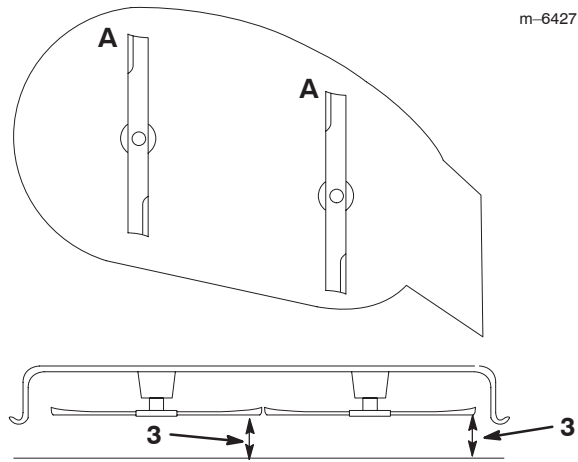

Figure 26
1. Rotate the blades until the ends face forward and backward (Fig. 26). Measure from a level surface to the cutting edge, position 1, of the blades (Fig. 26). Note this dimension.